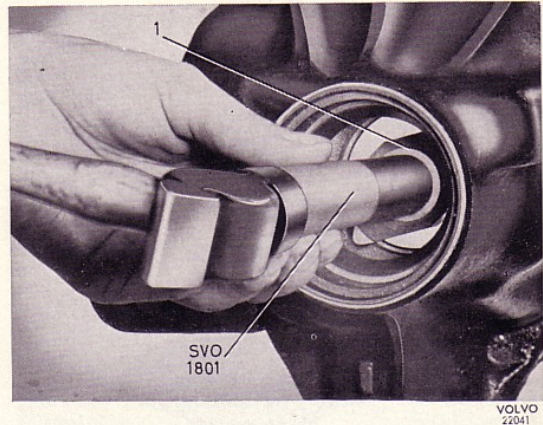

Fig. 13. Removing the bearing race.
10. If necessary, drive out the bearing outer race, see Fig. 13. Use the standard handle SVO 1801 and tool SVO 4063 for the front and SVO 4064 for the rear race. Do not lose the shims (30) under the rear ring.